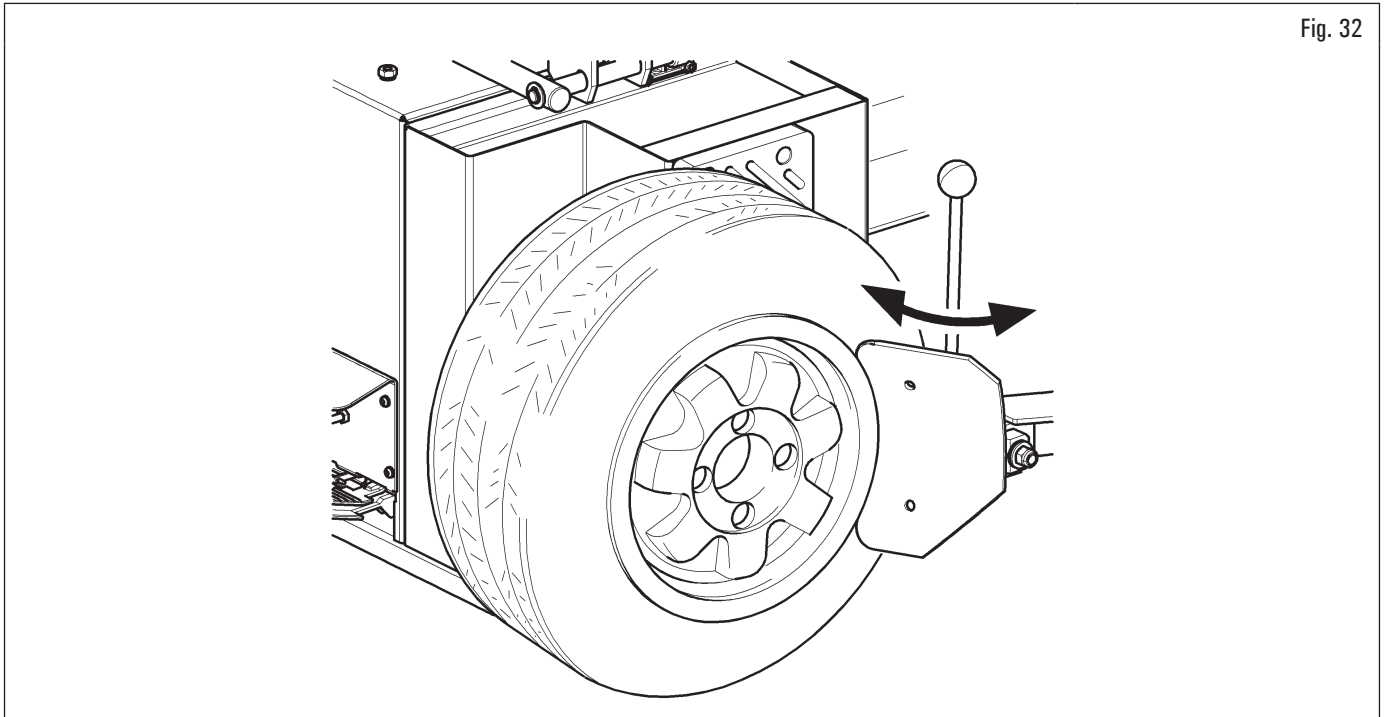

Fig. 32
1. position the wheel as indicated in Fig. 32 and move the bead breaker shovel towards the edge of the rim;